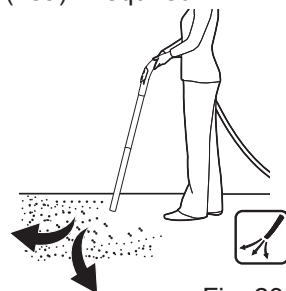

Fig. 23
- > Attach the extension tube(s) (14) onto the hose handle (13a) if required.
- > Hold the hose approximately 10 cm above the ground and walk slowly forward using a sweeping motion from side to side (Fig. 23).